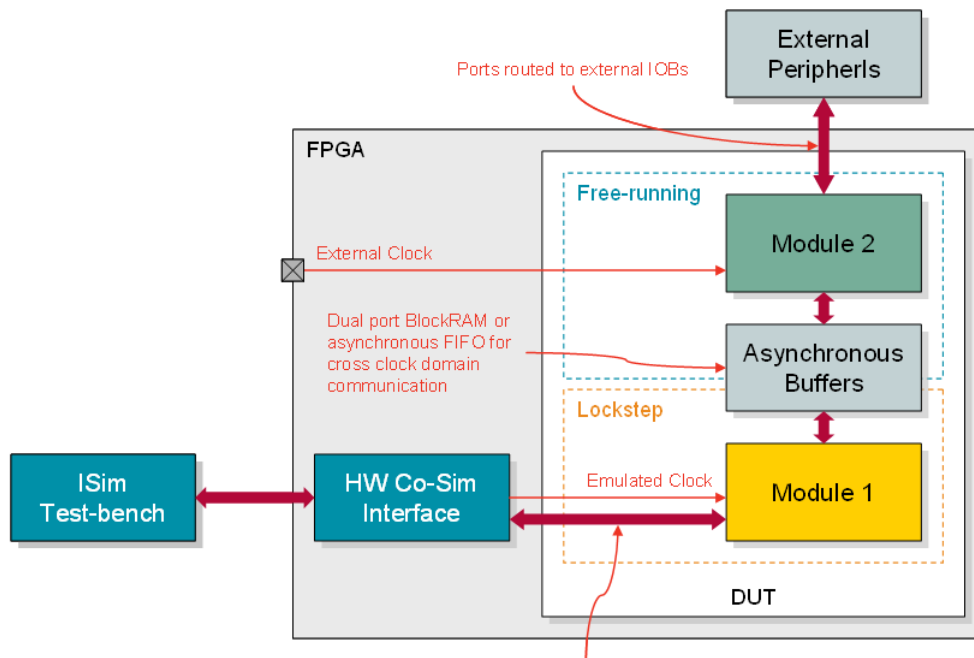

Figure 8-4: Determining Lockstep and Free-running Design Portions
1. Decide which portion of your design to run in lockstep with ISim simulation and which to be free-running. Figure 8-4, page 87 outlines the concept: